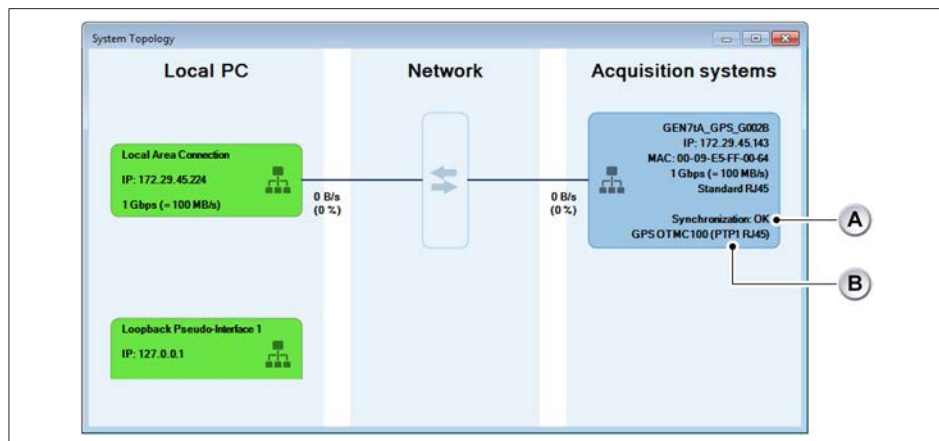

Fig. 14.46 System Topology
2. The **System Topology** overview opens (see Fig. 14.46):
- B States that **GPS OTMC 100** is connected as selected (**PTP1 RJ45** for RJ45 connection as shown in Fig. 14.46, **PTP2 SFP** if you are using the optical Ethernet connection)